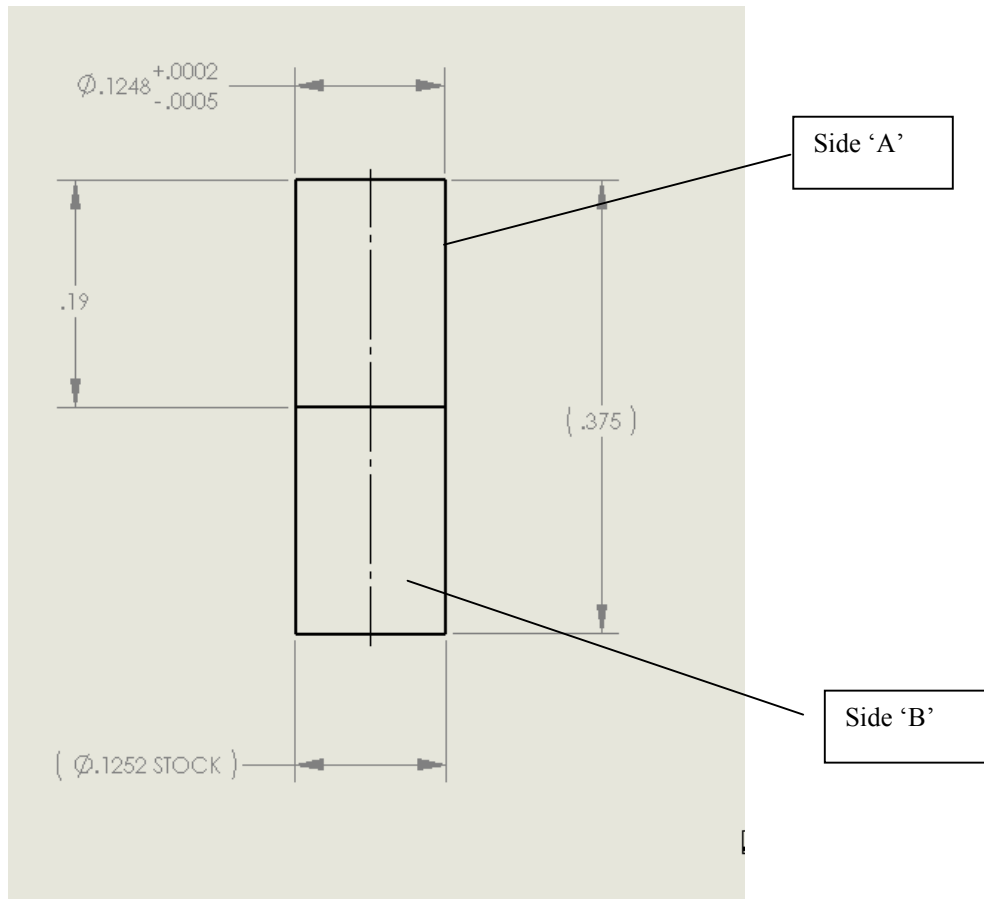

Figure 6: THM-SPB-MEC-456 Pin Detail
4. Turn down many pins per UCB drawing THM-SPB-MEC-456. This can be done by chucking up pin and slightly removing a few ten thousands of an inch using emery cloth. Verify final dims meet print. Two ends of part shall be denoted 'A' for side with smaller ID (less than .125") and "B" for side with larger ID (.1252, the stock diameter). See Figure 6.